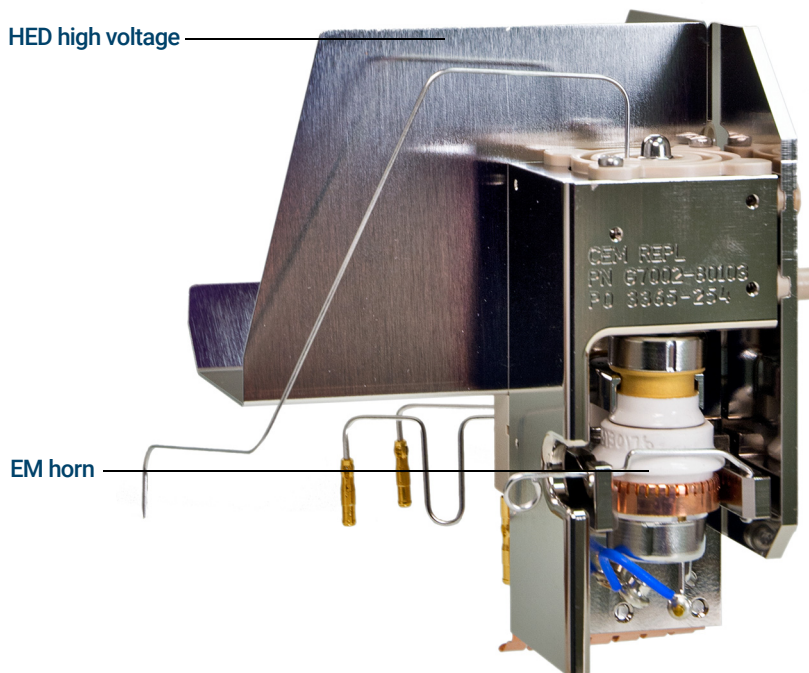

Figure 48. The detector
The detector (See **Figure 48** on page 196) in the MSD analyzer is a high energy conversion dynode (HED) coupled to an electron multiplier (EM). The detector is located at the exit end of the quadrupole mass filter. It receives the ions that have passed through the mass filter. The detector generates an electronic signal proportional to the number of ions striking it. The detector has three main components: the detector ion focus, the HED, and the EM horn.